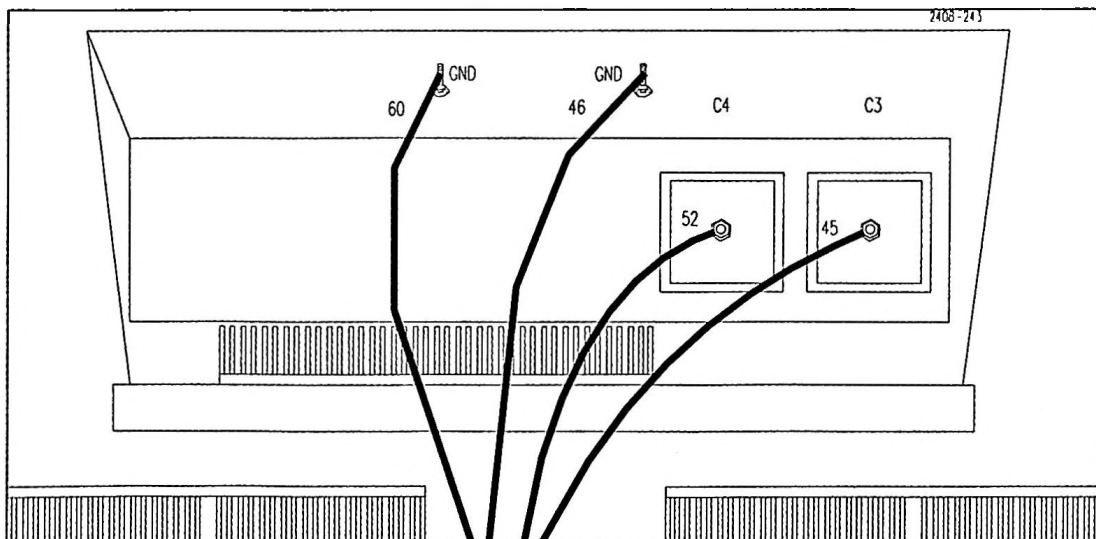

Figure 2-2 DC and Ground Connections for 3-Phase Power Supply
d. Wires 45 and 52 (large orange cables tied up with the transformers) connect to the feed-thru terminals, C3 and C4 at the top of the power supply compartment. These are the 52Vdc outputs from the two supplies. See Figure 2-2. The wires connect as follows:
- g. The large orange ground wires, #46 and 60, coming from the top of each rectifier assembly attach to ground studs at the top-front edge of the power supply compartment. It is located under the shelf which separates the power supply from the PA compartment just above C3 and C4. See Figure 2-2.